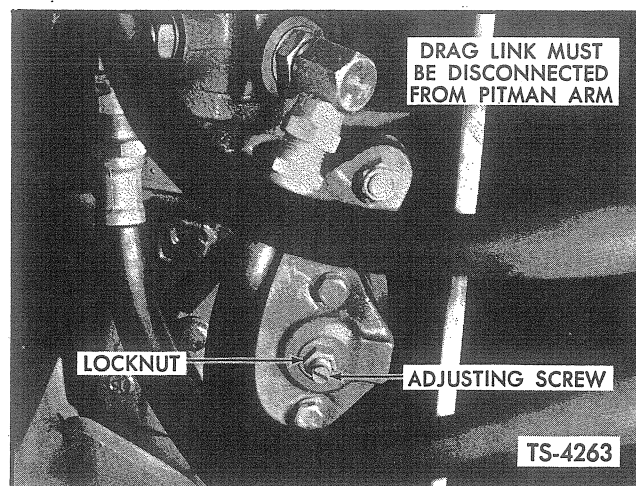

Fig. 39. Adjust Steering Gear
4. Loosen locknut and turn adjusting screw clockwise to increase pull at wheel, counter-clockwise to decrease the pull. See Figure 39. Reset locknut and recheck pull, as it must be within the specified limits after the locknut is tightened.